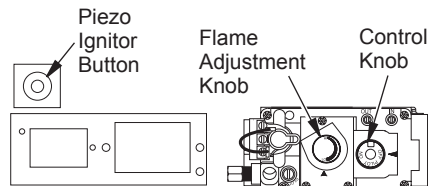

Figure 37 - Control Knob and Ignitor Button Location (Shown as Supplied - No Control Options)
3. Press in and turn control knob clockwise  to the OFF position (see Figure 37).
4. Wait five (5) minutes to clear out any gas. Then smell for gas, including near the floor. If you smell gas, STOP! Follow "B" in the safety information, column 1. If you don't smell gas, go to the next step.
5. Press in and turn control knob counter-clockwise  to the PILOT position. Press in control knob for five (5) seconds (see Figure 37).